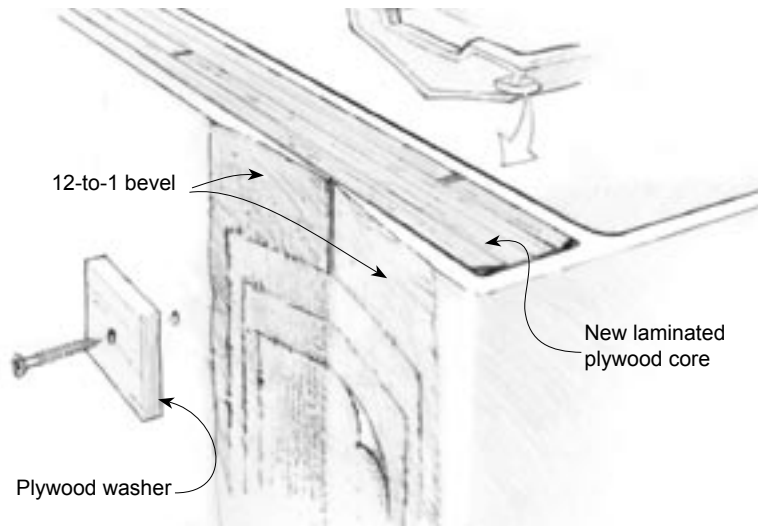

Figure 5-11 Grind a minimum 12-to-1 bevel on both sides of the joint. Laminate a repair patch over the joint to restore skin continuity.
4. Grind a minimum 12-to-1 bevel on both sides of the joint. The outside edge of the bevel should be short of the corner, as detailed earlier in Section 5.4.1 – “*Planning the repair*”. Laminate a repair patch over the joint to restore skin continuity (*Figure 5-11*). The bevel will provide a recessed bonding area for the application of epoxy/glass fabric and allow the patch to be faired flush with the surface. The procedure for patching the joint are the same as repairing damaged skins. Follow the procedure described in Section 4.3. Limit the patch and finishing to the transom side of the corners.